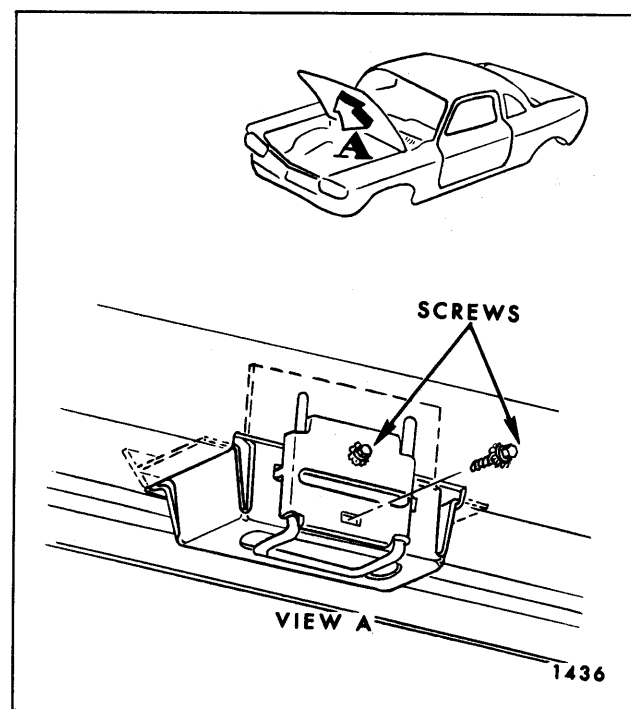

Fig. 5-20—Front Compartment Lid Lock Striker
2. Remove striker retainer plate attaching bolts and remove retainer plate and striker (Fig. 5-20).